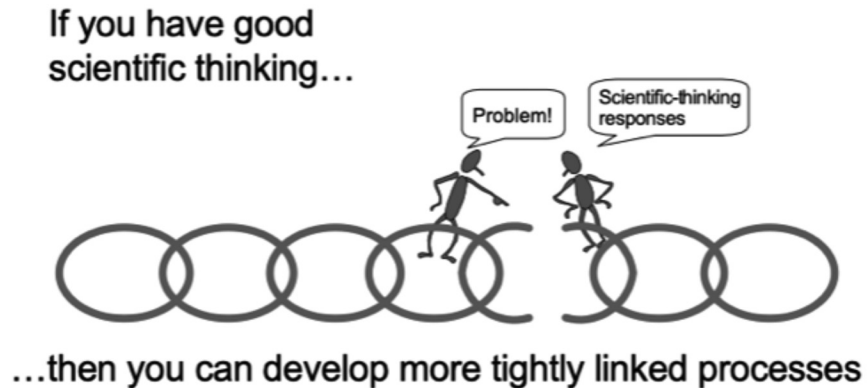

Figure 2.8 One-piece flow and scientific thinking.
As Mr. Minoura pointed out, one-piece flow will, in fact, cause stoppage in production and is only a good idea if you use this as an opportunity to improve the process. Process flow and problem solving go hand in hand. In Figure 2.8, we flip the script. We often think of one-piece flow as an independent variable, something to technically manipulate to get the results (dependent variables) that we want. In this figure we view one-piece flow as a dependent variable (or at least intermediate to the outcomes we want).* We get closer and closer to one-piece flow as we think scientifically about why the chain is being broken and we improve the process. And in response, as we get closer to one-piece flow, the chain will tighten and expose new problems; one by one we solve them and get even closer to the ideal of one-piece flow. It is a repeated virtual cycle of continuous improvement.
* Thanks to Mike Rother, who proposed the concept of thinking about many lean techniques, such as one-piece flow, as dependent variables and modified Figure 2.8 accordingly.